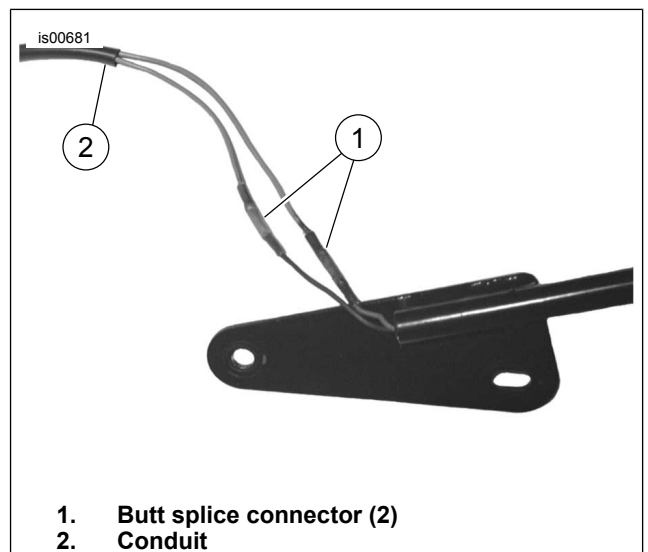

Figure 7. Install Wiring Harness
4. See Figure 7. Stagger cut wire lengths to approximately 21 inches (533 mm).